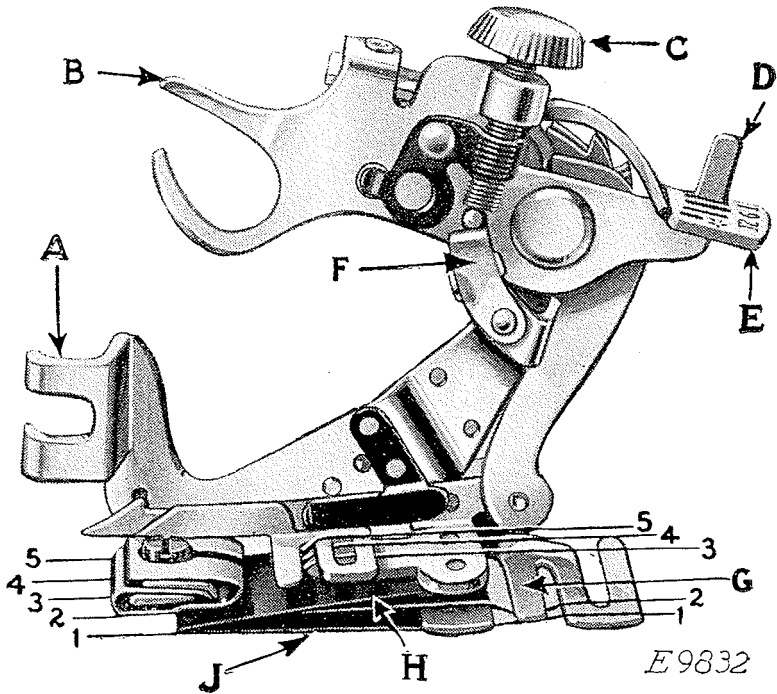
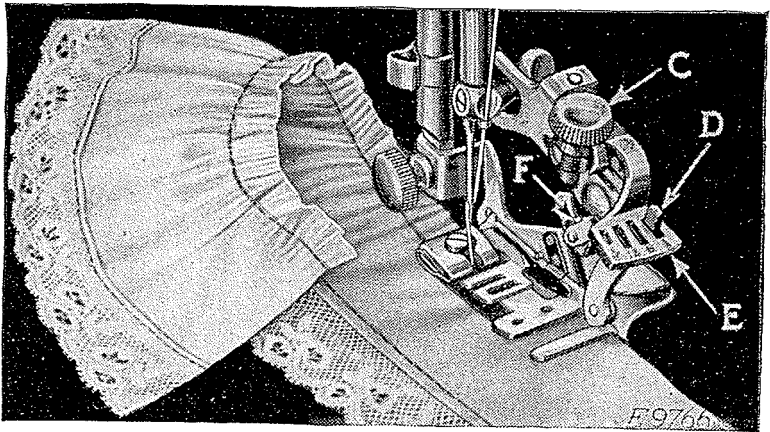
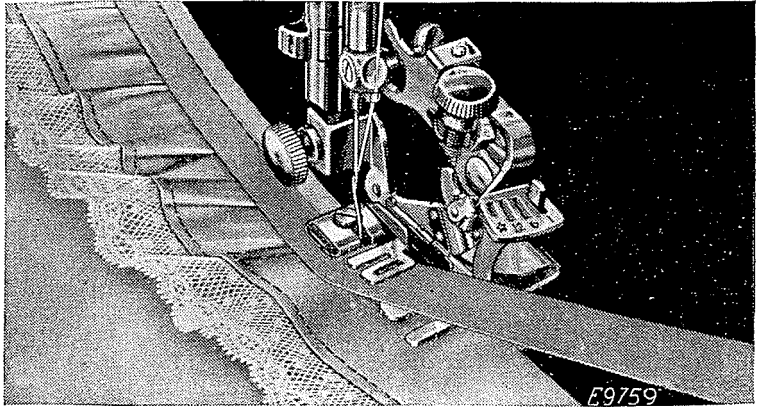
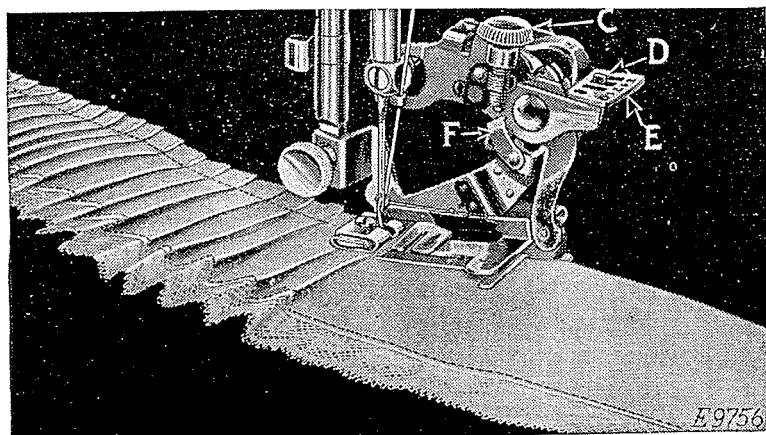

FIG. 59. THE RUFFLER AND ITS PARTS
FIG. 60
FIG. 62
FIG. 64
Lines 1, 2, 3, 4 and 5 shown in Fig. 59 indicate where the material is to be placed for various operations as follows:
Refer to Fig. 59 when inserting the material in the ruffler.
(SEE REFERENCES IN FIG. 59)
Raise the needle bar to its highest position and remove the presser foot. Attach the ruffler foot (A, Fig. 59) to the presser bar by means of the thumb screw, at the same time placing the fork arm (B, Fig. 59) astride the needle clamp as shown in Fig. 60.
The adjusting finger (F, Fig. 60) is not intended for gathering and should be moved forward or away from the needle, as shown in Fig. 60.
Raise the adjusting lever (E, Fig. 60) and move it to the left so that the projection (D, Fig. 60) will enter the slot marked "1" in the adjusting lever (E) when the lever is released. The ruffling blade will then move forward and back once at every stitch. Insert the material to be ruffled between the two blue blades, following the line 2 in Fig. 59. Draw the material slightly back of the needle, lower the presser bar and commence to sew.
To make fine gathering, shorten the stroke of the ruffling blade by turning the adjusting screw (C, Fig. 60) upward; also shorten the stitch. To make full gathering, lengthen the stroke of the ruffling blade by turning the adjusting screw (C) downward; also lengthen the stitch. By varying these adjustments, many pleasing varieties of work can be accomplished.
2, in Fig. 59. Place the garment to which the ruffle is to be attached, under the separator blade, following the line 1, in Fig. 59. Proceed the same as for gathering.
Insert the material to be ruffled between the two blue blades, following the line 2 in Fig. 59. Place the garment to which the ruffle is to be attached, under the separator blade, following the line 1, in Fig. 59. Place the material for the facing over the upper blue blade, as shown in Fig. 62, following the line 3, in Fig. 59. The facing may be straight or bias material. If the facing is to be on the right side of the garment, place the garment and
Insert the material to be ruffled between the two blue blades, following the line 2, in Fig. 59. This
The material for piping must measure about $\frac{1}{4}$ inch wide when folded in the center and is usually cut on the bias. Place the piping material in the ruffler, following the line 4, in Fig. 59, with the folded edge of the piping to the right. The material to which the piping and ruffling are to be sewn should be folded on the edge and inserted in the ruffler, following the line 5, in Fig. 59.
Raise the adjusting lever (E, Fig. 64) and move it to the right so that the projection (D, Fig. 64)
will enter the slot marked "6" in the adjusting lever when the lever is released. The ruffling blade will then move forward and back once at every six stitches. To adjust the ruffling blade to make a plait once at every twelve stitches, place the adjusting lever (E, Fig. 64) so that the projection (D) enters the slot marked "12" in the adjusting lever. Insert the material to be plaited between the two blue blades, following the line (2, Fig. 59). The size or width of plaits is regulated by the adjusting screw
(C, Fig. 64) and the adjusting finger (F, Fig. 64). To make a wider plait, move the adjusting finger (F) back or toward the needle and turn the adjusting screw (C) downward. To make a smaller plait, turn the adjusting screw (C) upward. The distance between plaits is regulated by the length of stitch.